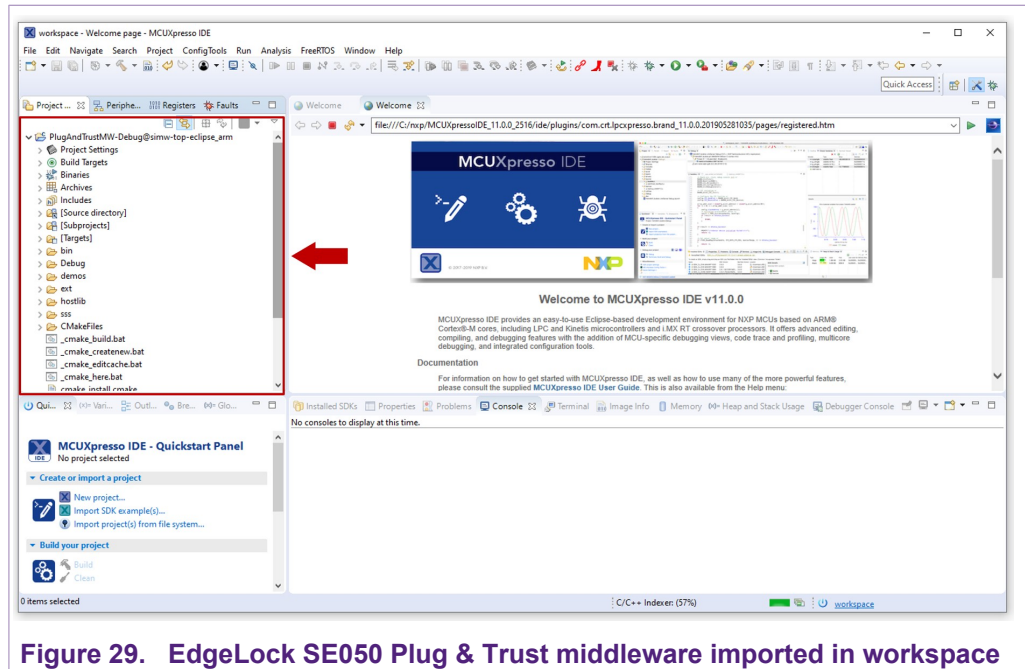

Figure 29. EdgeLock SE050 Plug & Trust middleware imported in workspace
- The `PlugAndTrustMW` project should now be imported in your workspace as shown in Figure 29: